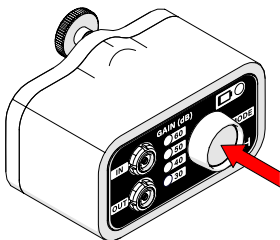

Fig. 16 - Press the mode button to activate
1. Press the Mode Button to activate the preamp (*Fig. 16*).
1. Press the Mode button to alternate between various GAIN settings (*Fig. 16*).
1. Press and hold the mode button until the indicator lights turn off. This confirms that the preamp has been deactivated (*Fig. 16*).